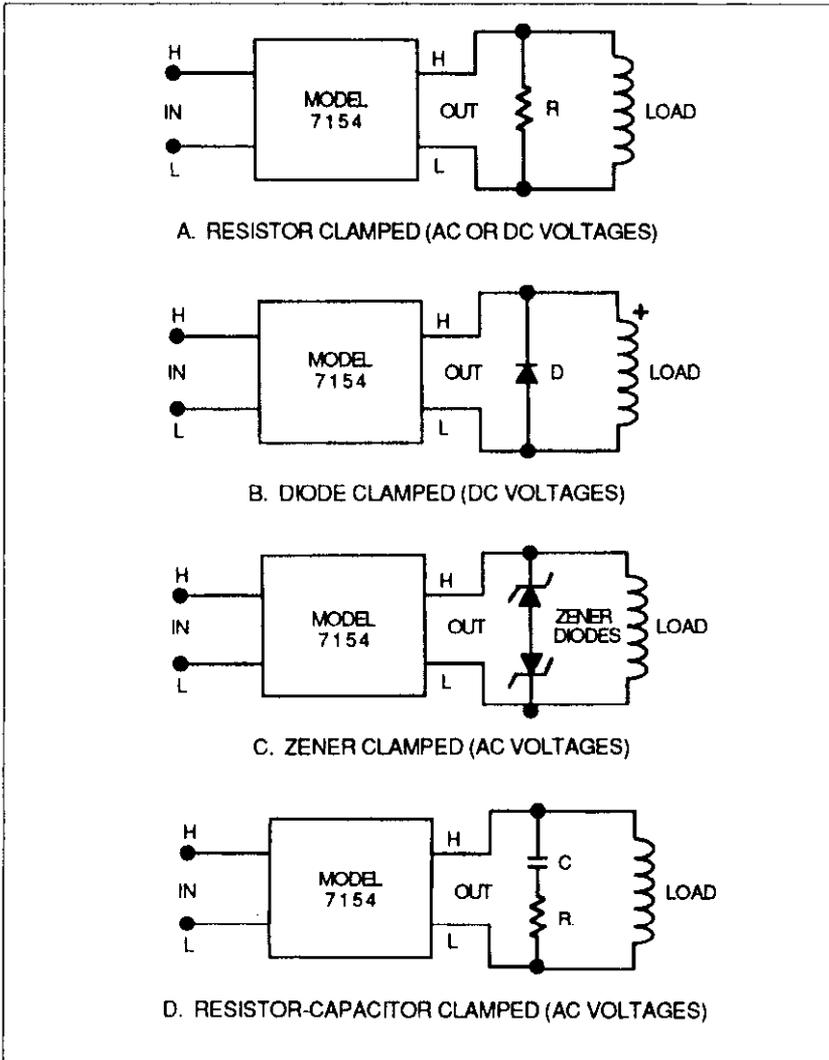

Figure 2-2. Limiting Inductive Reaction Voltage
2. Inductive Loads - Inductive reaction voltage, $L(di/dt)$, must be less than 1100V. Typical clamping circuits are shown in Figure 2-2. Also, consider the maximum load of 10VA when determining the voltage limit. For example, when switching 40mA, the voltage must be limited to 250V ($V = 10VA/40mA$) and the clamping resistor calculation of Figure 2-2A would be: